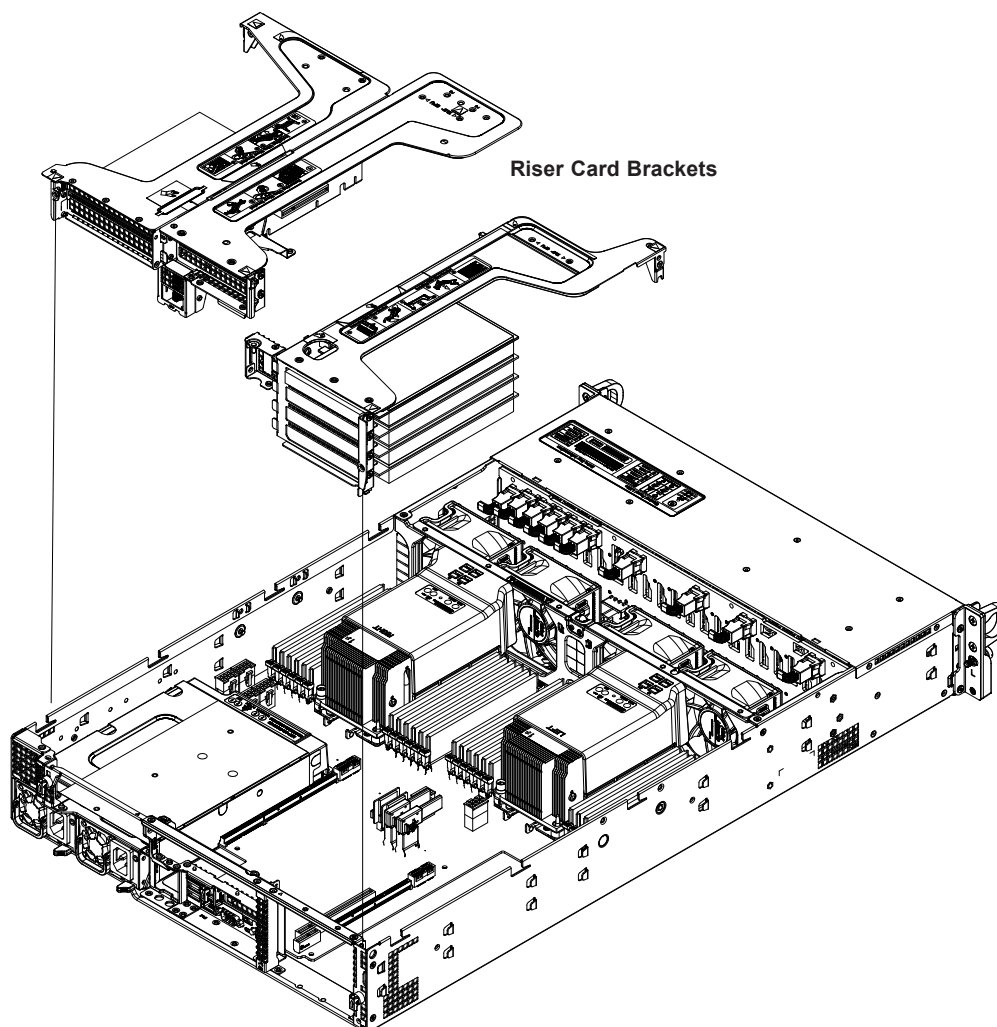

Figure 3-18. Installing Expansion Cards
1. Remove the left WIO riser card as described in Figure 3-18.